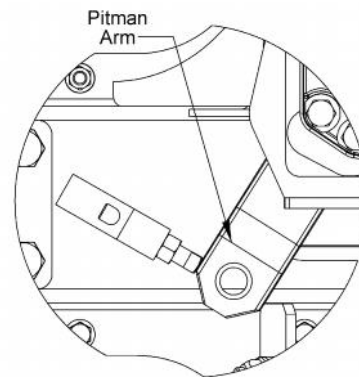

Figure 13 - Auxiliary Steering Stop Adjustment
11. The auxiliary turn stops now can be adjusted. **This adjustment must be made when the suspension is at ride height only.** Turn the wheel until the outer wheel stop has made contact with the carrier casting. Using a wrench, loosen the stop bolt jam nut and adjust auxiliary stop bolt until the head of the bolt contacts the side of the Pitman Arm (**Figure 13**). The Relay Rod was hidden for illustration purposes only. Tighten jam nut to **50-75 Ft-Lb**. Repeat process turning in the opposite direction.